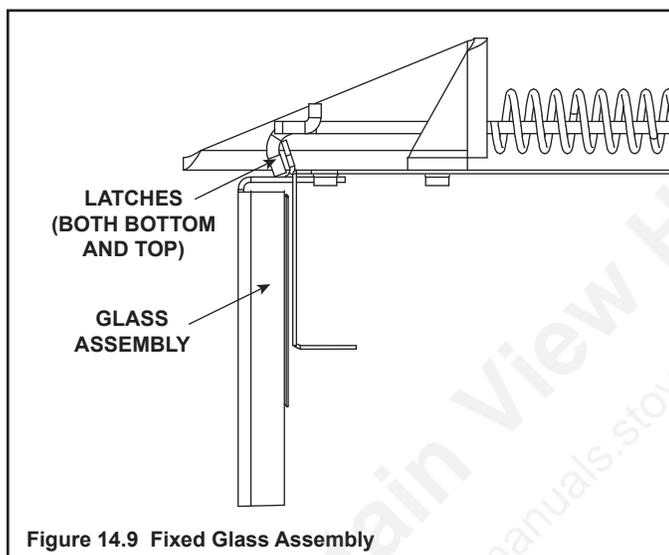

Figure 14.9 Fixed Glass Assembly
- Pull the four glass assembly latches out of the groove on the glass frame. Remove glass door from the appliance (see Figure 14.9).